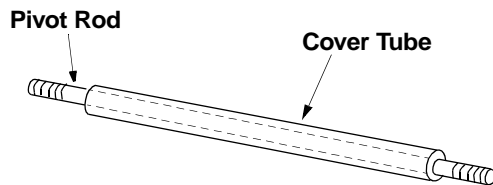

Figure 3
- Slide the pivot rod into the cover tube as shown in Figure 3.